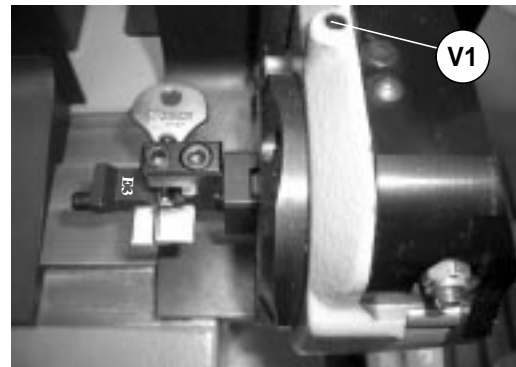
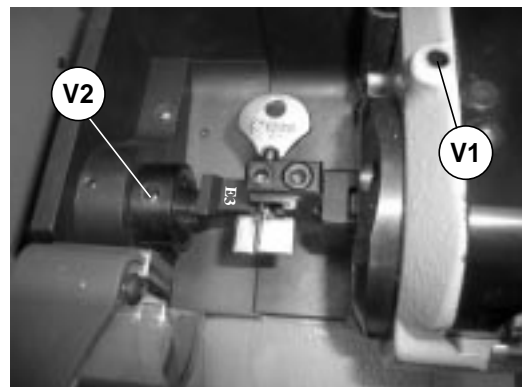

Fig. 41
Fig. 42
- 2) Take the 'T' wrench (T4) from its seat and fit into the screw (V1), then loosen until the jaws are fully open. At the end of the operation do not remove the 'T' wrench from the screw (fig. 41).
- 3) Fit the key blank into the **E3** adapter, paying attention to its position (fig.), then tighten the screw (P).
- 6) Tighten the knob (T1). Use the 'T' wrench (T4) to tighten the screw (V1) first, then the screw (V2) (fig. 42). Replace the T wrench (T4) into its seat, lower the mobile safety shield and begin the process with START.